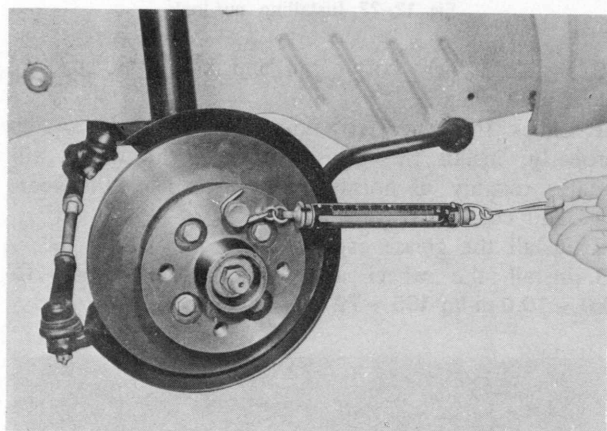

Fig. 12-16 Checking wheel bearing preload
6. Check the bearing preload by hooking a spring scale on the hub bolt, as shown in Fig. 12-16.